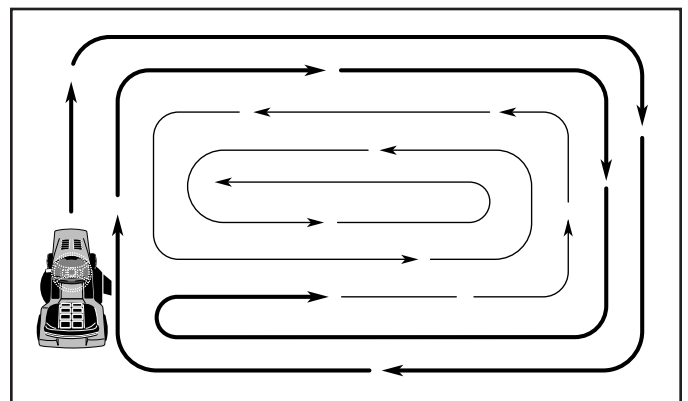

FIG. 11
## TO START ENGINE (See Fig. 11)
- When mowing large areas, start by turning to the right so that clippings will discharge away from shrubs, fences, driveways, etc. After one or two rounds, mow in the opposite direction making left hand turns until finished (See Fig. 11).